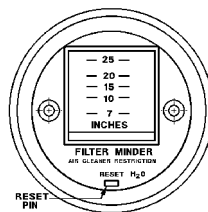

FIGURE 40-5.
8.	AIR CLEANERS - Check the air cleaner vacuum gauges in the operator cab, Figure 40-5. The air cleaner(s) must be serviced if the gauge(s) shows the following maximum restriction: Komatsu SDA16V160 or SSDA16V160 Engines: 625 mm (25 in.) of water vacuum. Refer to the shop manual for servicing instructions for the air cleaner elements. NOTE: After air filter service, push the reset button on face of gauge to allow the gauge to return to zero.